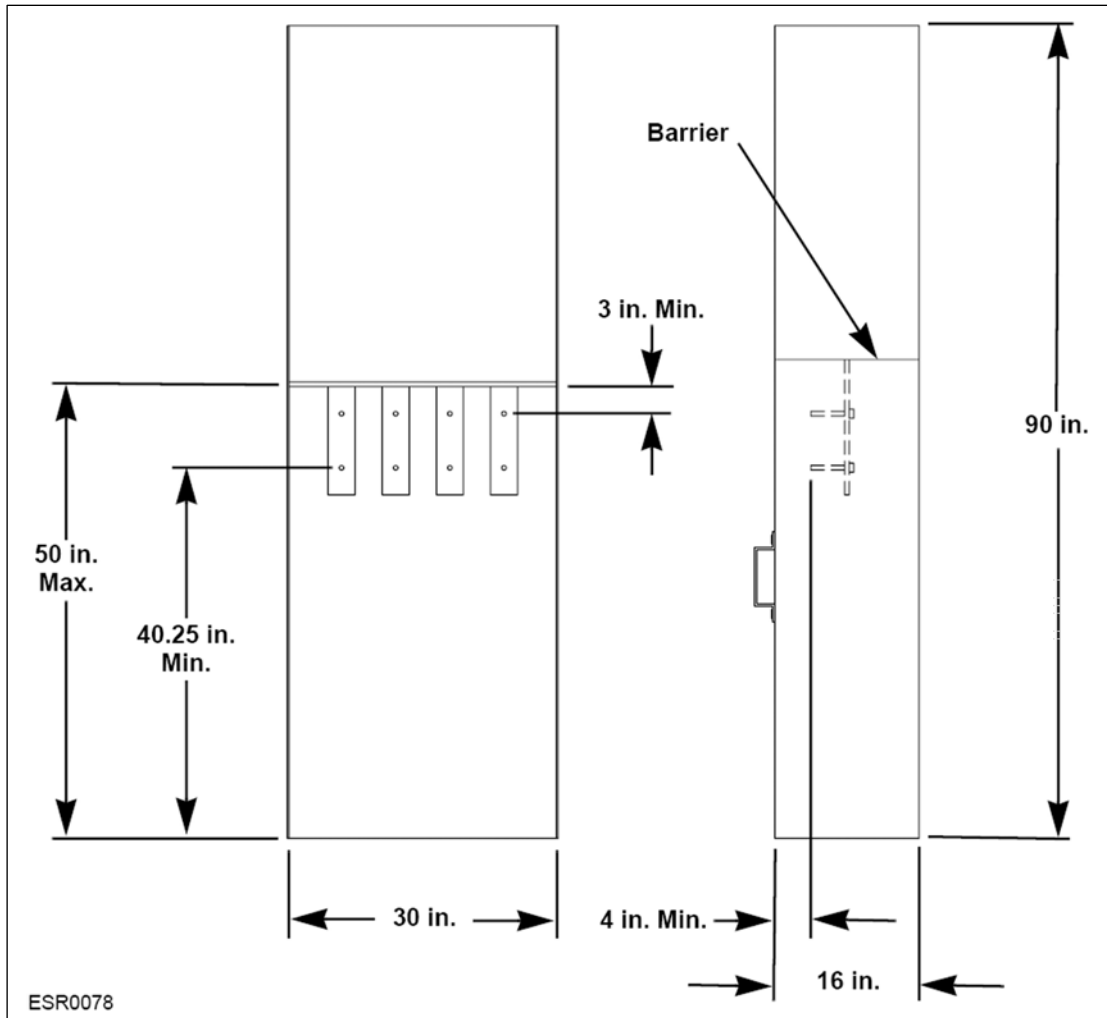

Figure 84: Load Section of an Indoor Switchboard (EUSERC 327)
- The load section of an indoor switchboard may be used by PGE as the terminating section for underground service (EUSERC 327) as shown in **Figure 84**.